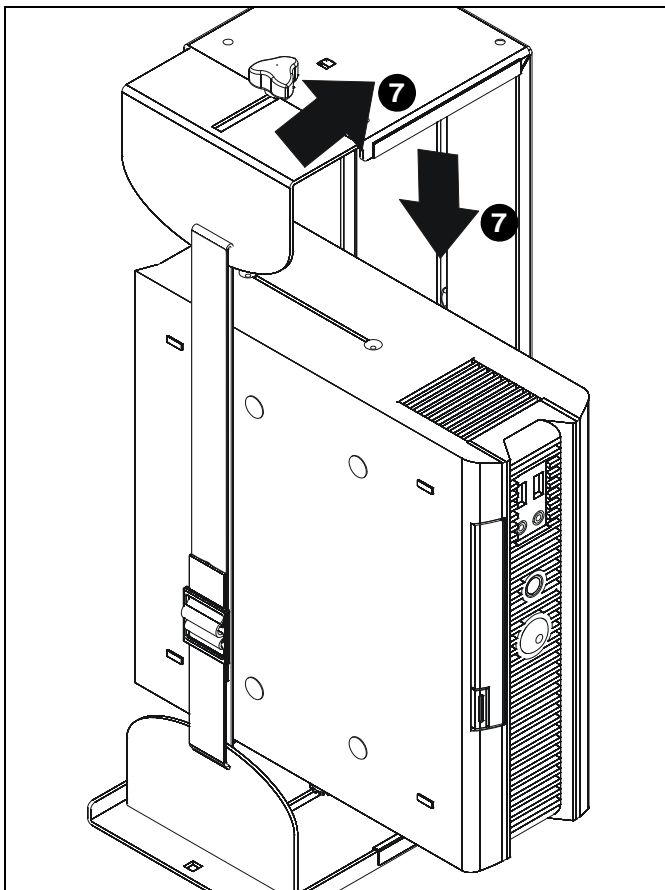

Figure 6
6. Set CPU within mount (A). (See Figure 6)
7. Use adjustment knobs to compress mount around CPU until CPU is tightly secured within mount (A). (See Figure 6)